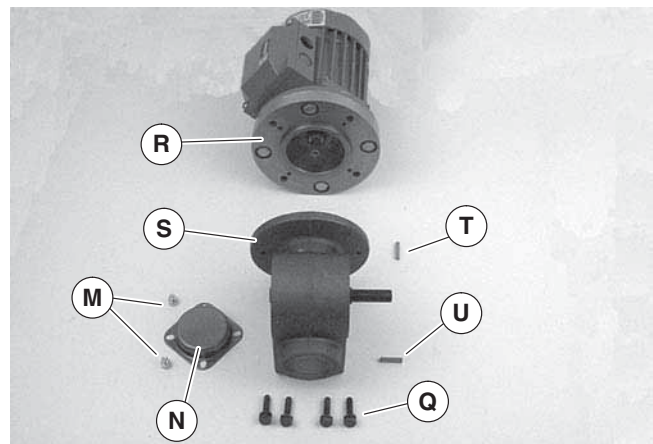

Figure 11
4. Remove four screws (Figure 11, item Q). Detach motor (R) from gear reducer (S). Retain motor output shaft key (T).